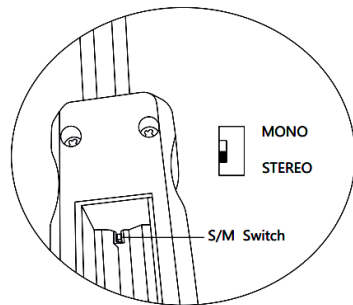

Figure 4
2. **S/M switch:** There is an s / m switch inside the battery box, see Figure 4. Ensure the switch is on Mono to make both ears active (on most aircraft).